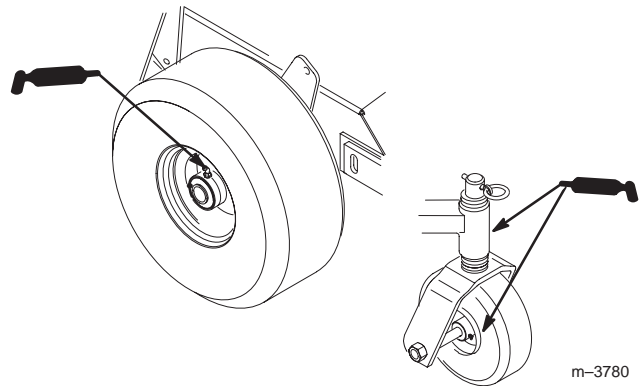

Figure 36
1. Lubricate the drive and caster wheel bearings and front spindles (Fig. 36) after every 8 operating hours.